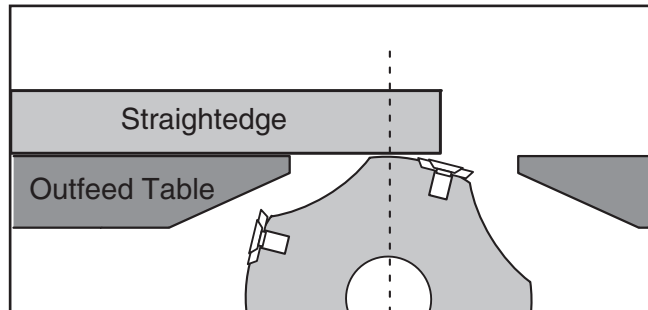

Figure 53. Adjusting outfeed table even with cutterhead body.
1. Place the straightedge on the outfeed table so it hangs over the cutterhead, and lower the outfeed table until the straightedge just touches the cutterhead body, as shown in **Figure 53**.